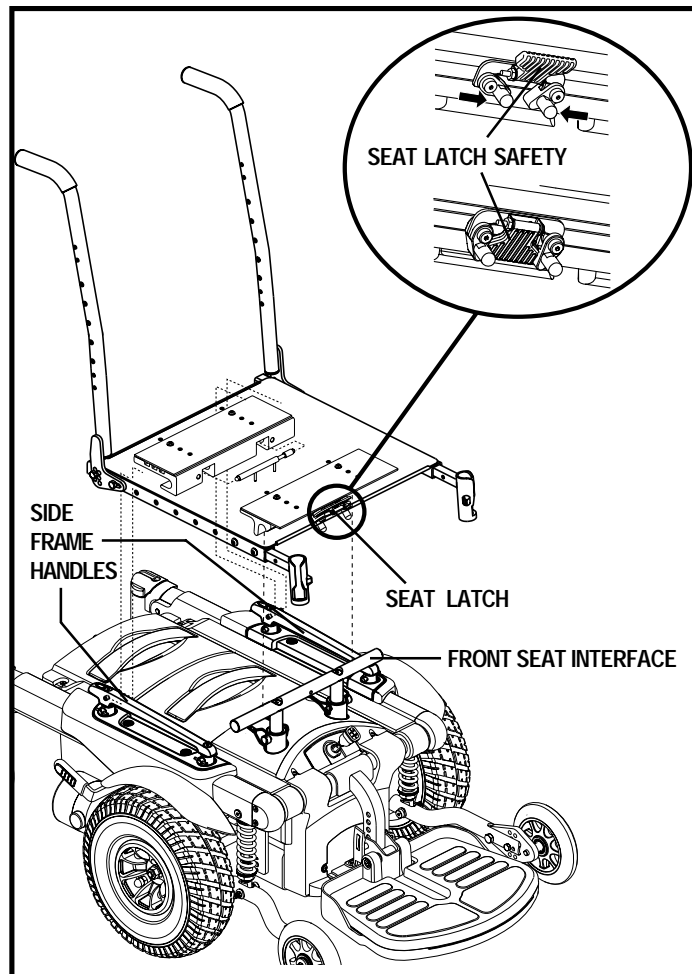

Figure 12. Seat Installation (Shown Without Armrests for Clarity)
4. Slide the seat onto the side frame handles and slowly lower the seat onto the front trapeze bar until it locks into place. See figure 12.
5. Flip the seat latch safety down. See figure 12.
4. Squeeze the seat latch together. See figure 12.